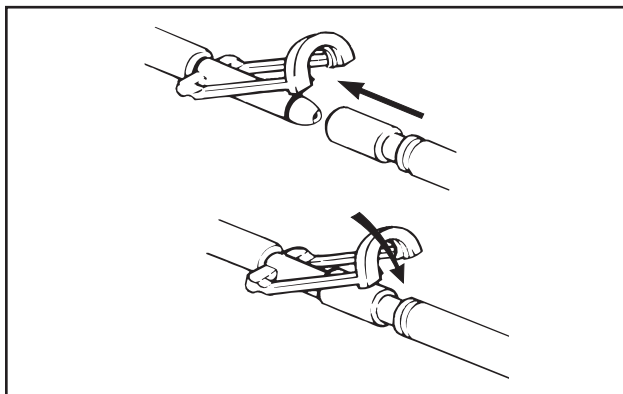

Figure 6—Clik-Tite Connector
- b. Attach the two Clik-Tite connectors (fig. 6) on the connector hose to the blanket/body wrap. Insert the male fitting into the female. When fittings are fully seated, snap the locking ring into place to assure a positive lock.